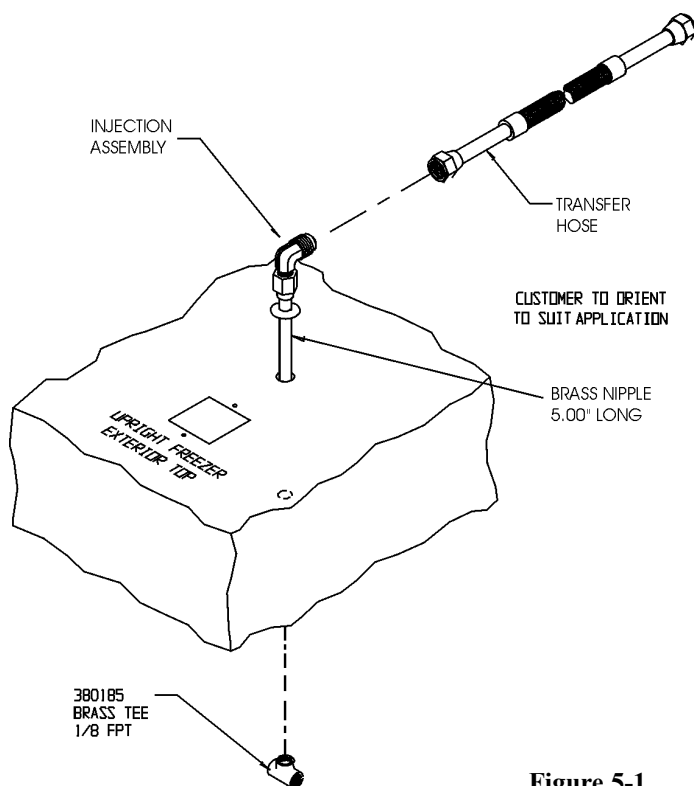

Figure 5-1
3. Turn off the power switch (see figure 5-1) to the battery(s).